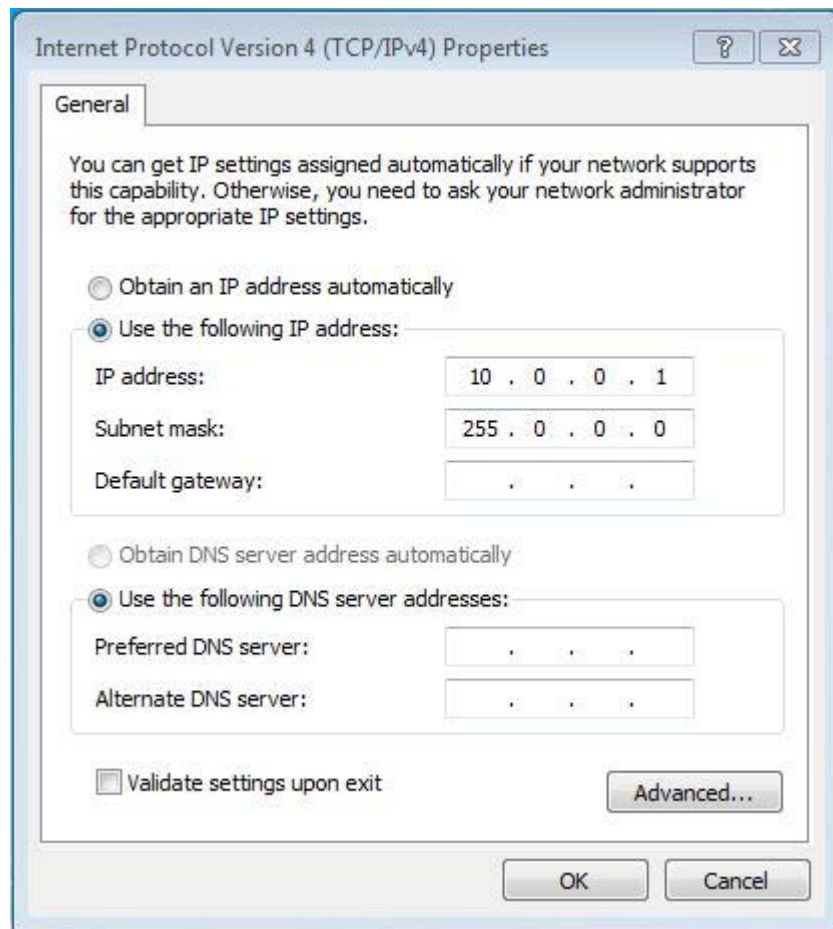

Figure 4.32 - Setting the Static IP Address for the TenAsys Virtual Ethernet Adapter
6. In the *Internet Protocol Version 4 (TCP/IPv4) Properties* window, select the **Use the following IP address:** radio button, and enter **10.0.0.1** in the IP address. Keep the default Subnet mask: of **255.0.0.0**, Figure 4.32.